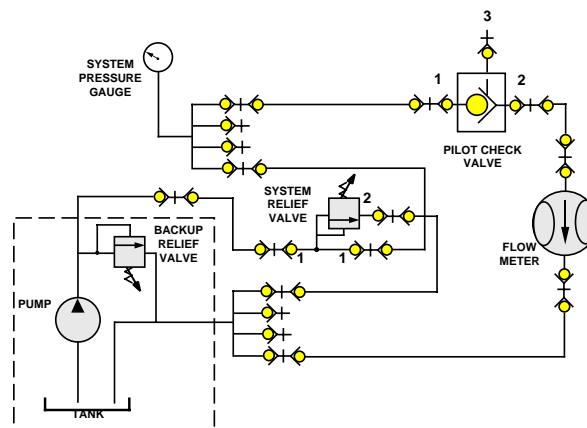

Fig. 3.5.29 Circuit
1. Construct the circuit shown in Figure 3.5.29